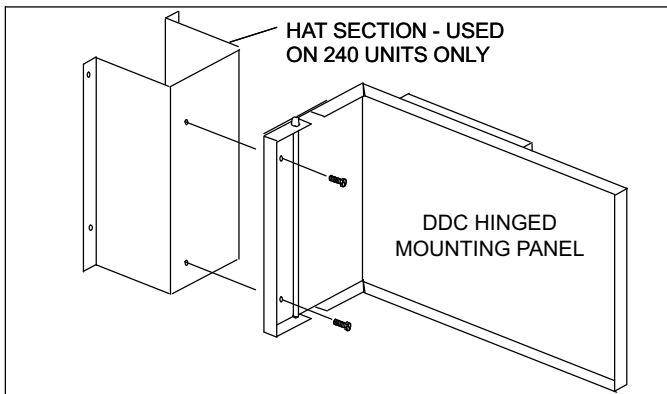

Figure 3. 240 Units - Attaching DDC Hinged Mounting Panel to Hat Section
5. **240 Units:**—Attach the hat section provided in the kit to the DDC assembly using two 5/8" screws (see figure 3.)